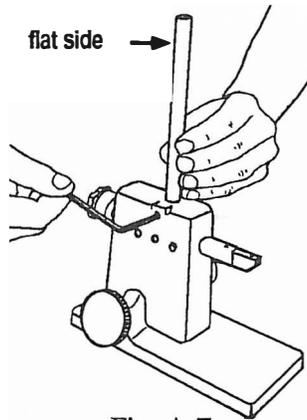

Fig. A-7
8. Insert the follower upright (50) in the top hole of the base (37) until it touches the cutter support (58). The flat surface must be at the top and facing the back of the base. Use a 5/32" Allen wrench to lightly tighten the setscrew (41) against the upright, as seen in Fig. A-7.